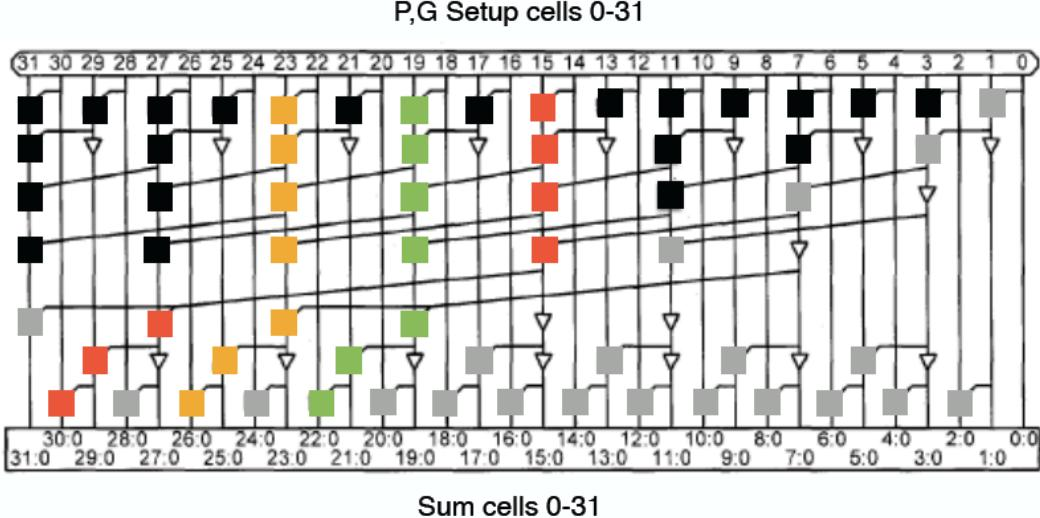

Figure 14: The complete 32-bit adder with one path colored for each of the three outputs that has the longest path through the tree: 30, 26 and 22
d) The longest path in the complete adder in 13 has seven PG cells, that is the delay through the tree is 7 unit delays. It is three outputs that have this worst-case delay: 30, 26 and 22. For one output there can be multiple paths of the same length. In Fig 14 one path for each of these three outputs is colored. With a different solution for task c) the solution to task d) may be different.